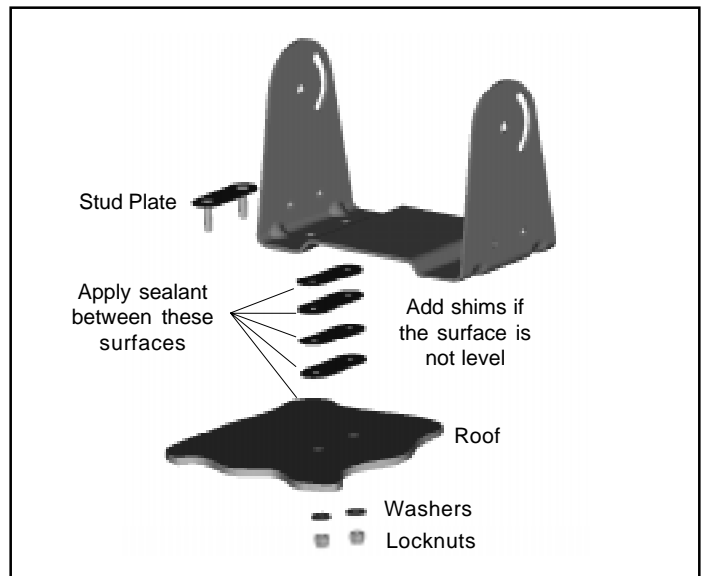

Figure 13 Sealant and Camera Mounting Bracket
NOTE: Make sure the studs protrude into the cab so a nut can be fastened. See Figure 13.
14. Apply sealant between all contact areas (between the roof and the shims, between each shim, between the shim and the bracket, and between the bracket and stud plates). See Figure 13.